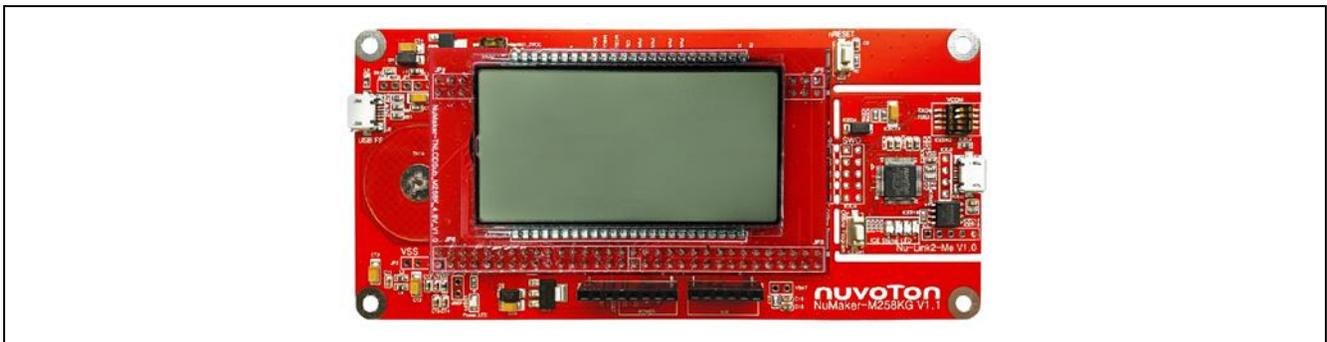
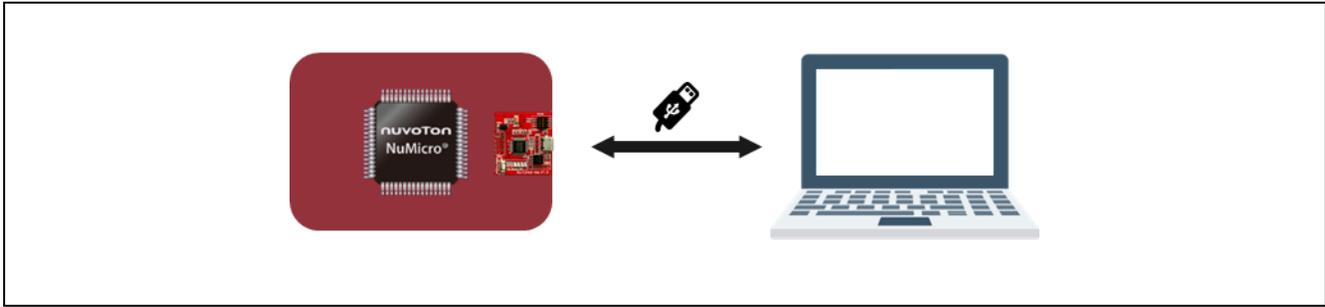

Figure 3-1 Connect NuMaker-TNLCDSUB\_M258K and NuMaker-M258KG V1.1
Figure 3-2 Use a USB cable to connect Nu-Link2-Me and PC USB port
- Connect the NuMaker-TNLCDSUB\_M258K to NuMaker-M258KG V1.1, as shown in Figure 3-1. Then, use a USB cable to connect Nu-Link2-Me USB connector to the PC USB porta as shown in Figure 3-2.